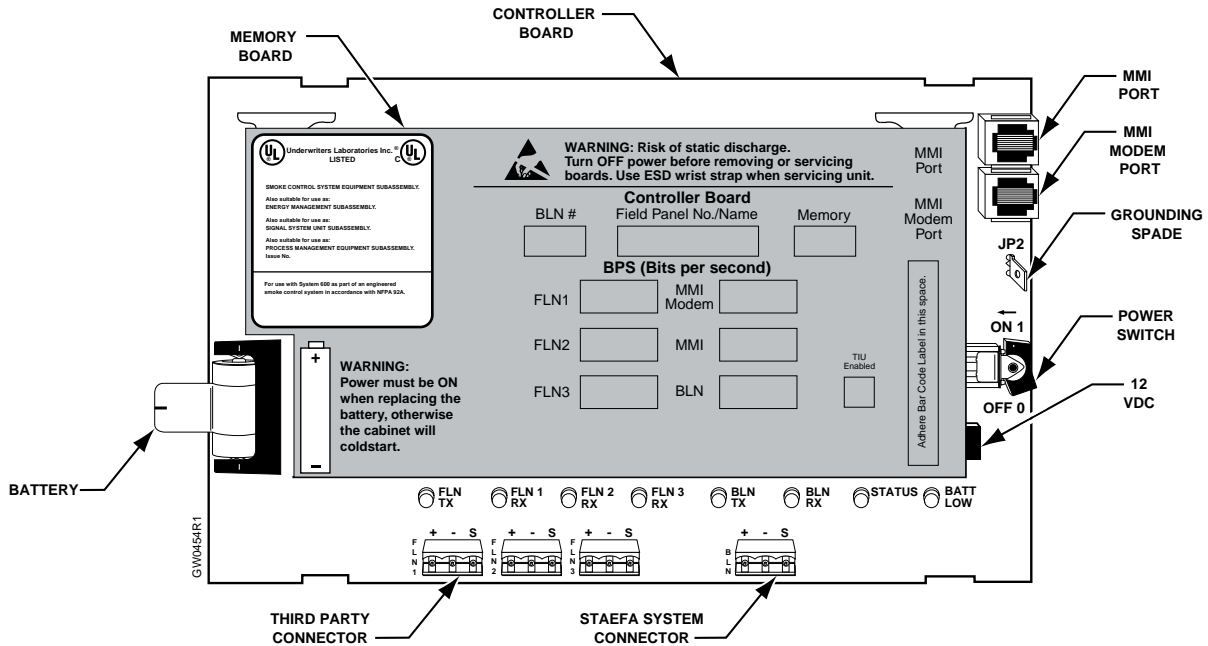

Figure 1. Easylink Controller Module.
Before removing or installing the Easylink Board, ensure that the power is shut OFF on the board (Figure 1).
6. Plug the grounding strap wire into the grounding spade labeled JP2 on the Easylink Module (Figure 1).
3. Switch on power to Easylink (Figure 1).